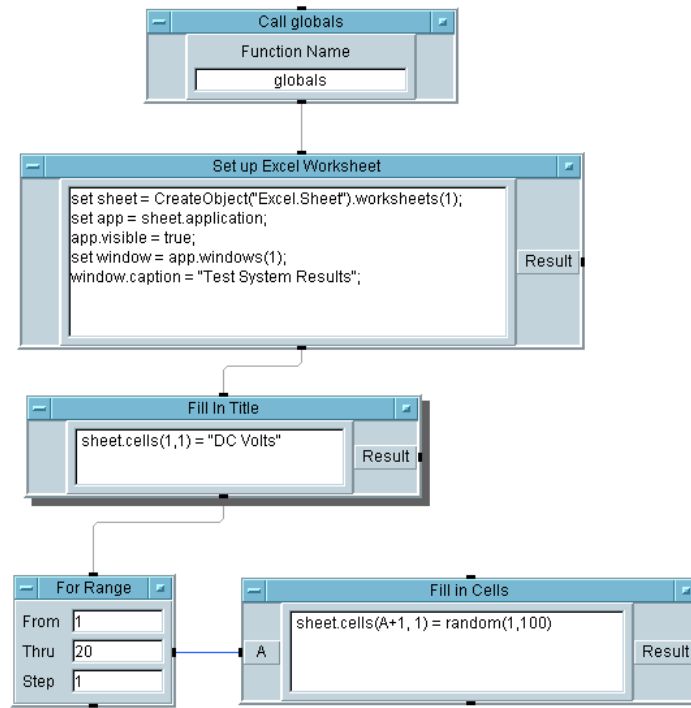

Figure 6-7. Adding the Title and Data to the Sheet
9. Create a `Formula` object (under `Device` $\Rightarrow$ `Formula`). Clone the `Formula` object to create a second `Formula` object. Create a `For Range` object (under `Flow` $\Rightarrow$ `Repeat` $\Rightarrow$ `For Range`). Rename the objects, connect them, and configure them as shown in Figure 6-7. (Be sure to delete the input terminal on the `Formula` object `Fill in Title`.)